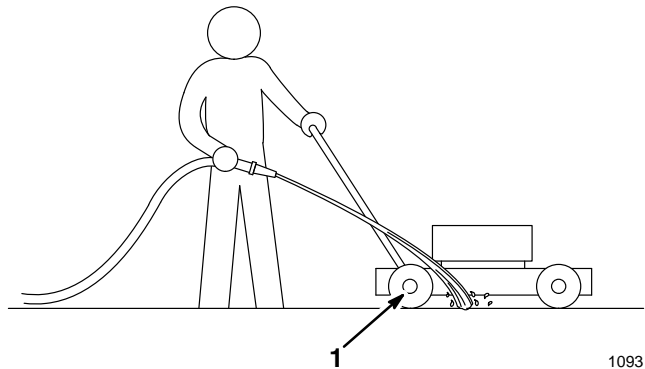

Figure 31
4. Hold the running garden hose at handle level and direct water to flow on ground just in front of right rear tire (Fig. 31). The rotating blade will draw water under the deck and wash out clippings. Let the water run for a few minutes or until you no longer see clippings being washed out from under deck.